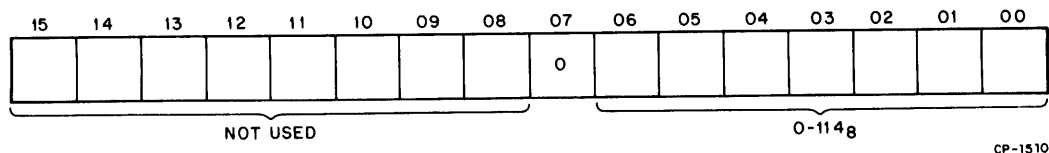

Figure 3-2 RXTA Format (RX11)
**3.2.2.1 RXTA – RX Track Address (Figure 3-2)** – This register is loaded to indicate on which of the 1158 tracks a given function is to operate. It can be addressed only under the protocol of the function in progress (Paragraph 3.3). Bits 8 through 15 are unused and are ignored by the control.